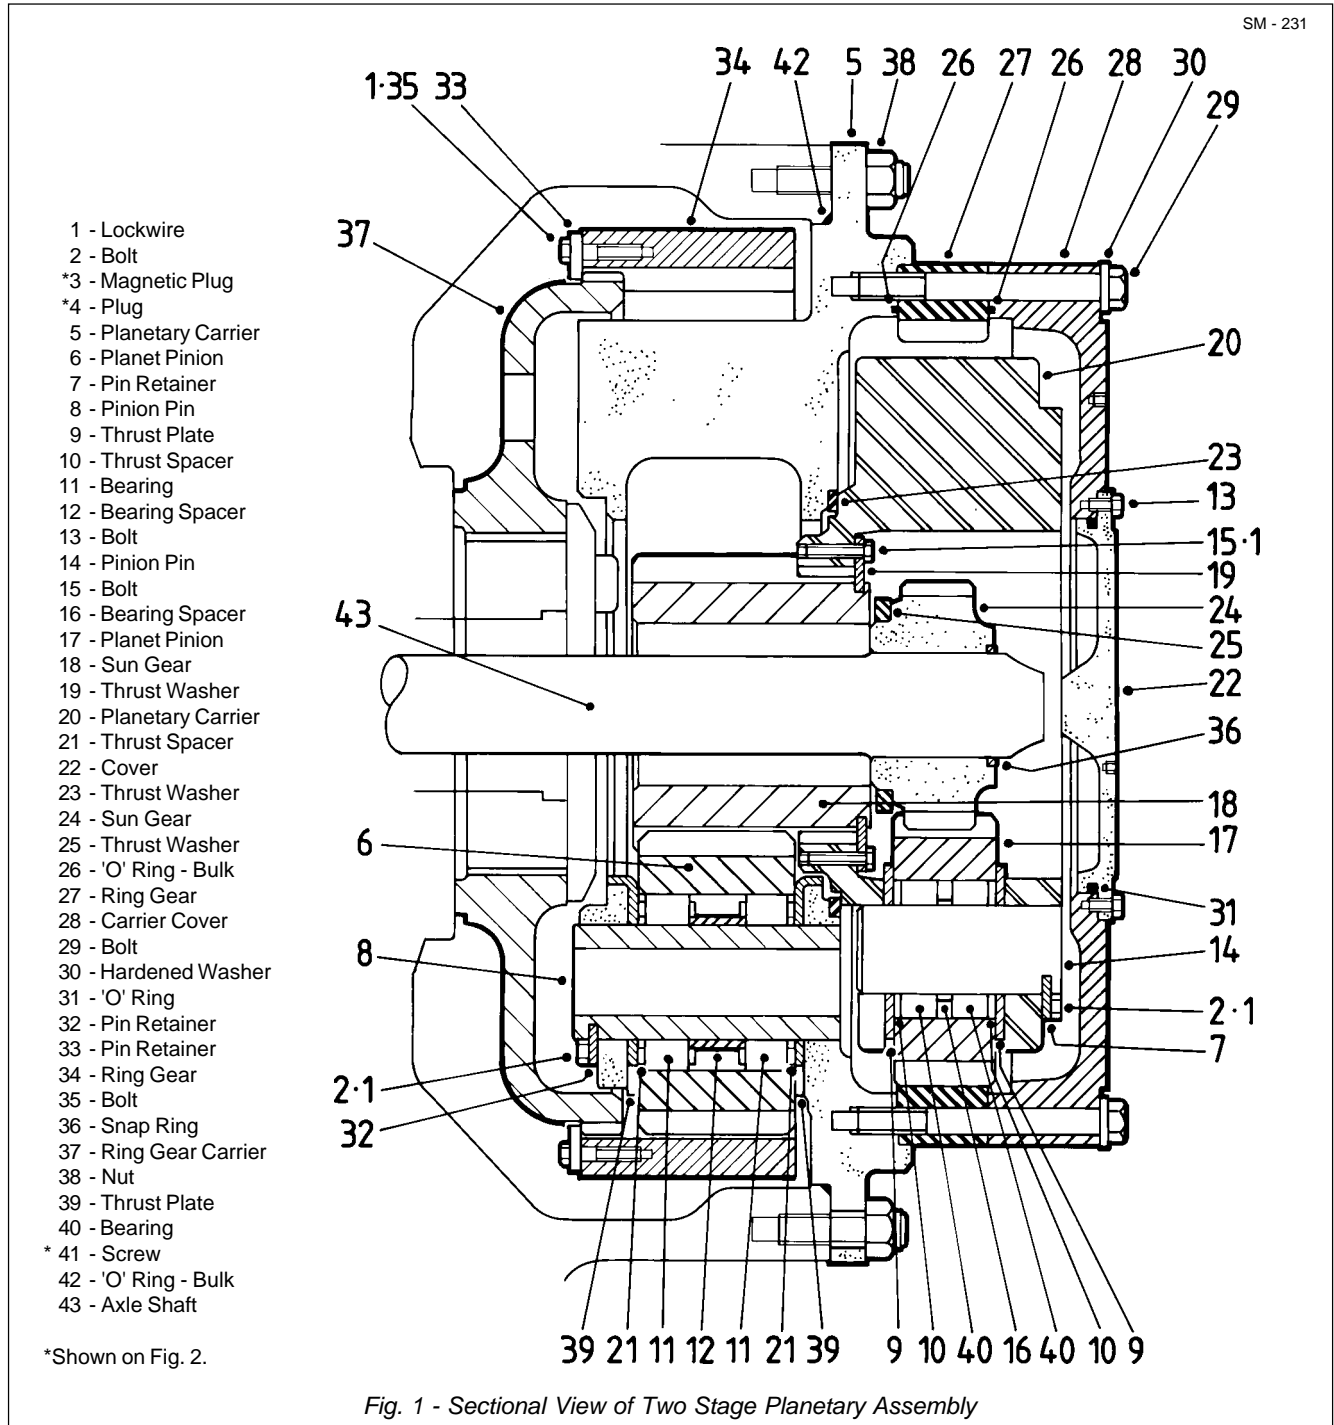
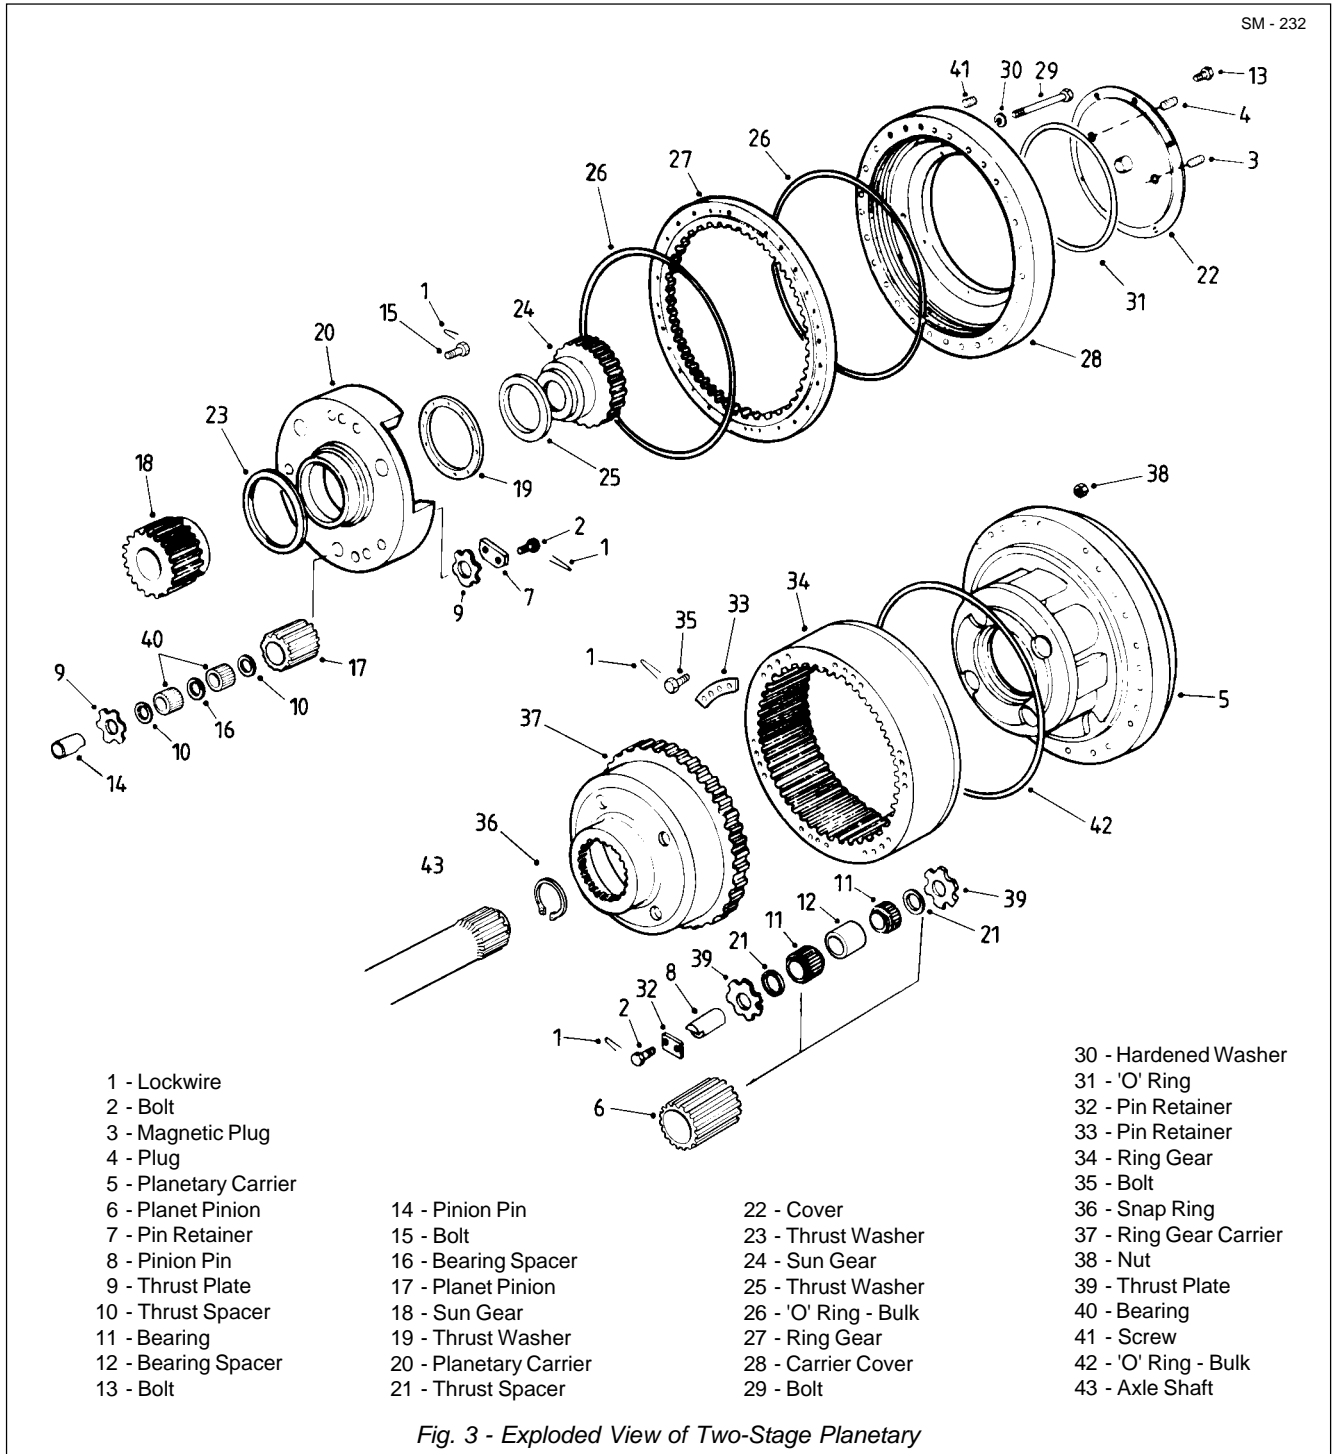

Fig. 1 - Sectional View of Two Stage Planetary Assembly
Fig. 3 - Exploded View of Two-Stage Planetary
Numbers in parentheses refer to Fig. 1.
Numbers in parentheses refer to Figs. 1 & 3.
Numbers in parentheses refer to Fig. 3 unless otherwise stated.
Numbers in parentheses refer to Fig. 3.
1. If disassembled, attach ring gear (34) securely to ring gear carrier (37) with retainers (33), bolts (35) and lockwire (1). Install ring gear and ring gear carrier assembly on the wheel spindle and attach securely with its retainer plate, bolts and lockwire. See Fig. 1.
2. Install planet pinions (6) in planetary carrier (5) as follows (See Figs. 1 & 4):
Place thrust plates (39) on a flat surface, then place planet pinion (6) on top of thrust plate (39). See Fig. 3. Insert thrust spacer (21) inside planet pinion (6) then insert bearing (11) inside planet pinion (6) and over thrust spacer (21). Make certain thrust spacer (21) is centred to the cage of bearing (11). Then insert bearing spacer (12), bearing (11) and thrust spacer (21) to complete planet/bearing assembly as shown in Fig. 3. Install the assembled planet pinion with thrust plates (39) into planetary carrier (5). Insert pinion pin (8) through planetary carrier (5) and secure with pin retainer (32), bolts (2) and lockwire (1).
3. Repeat Step 2 to assemble and install remaining three planet pinions (6) in planetary carrier (5).
4. Assemble planet pinions (17) in planetary carrier (20) as follows (See Figs. 1 & 5):